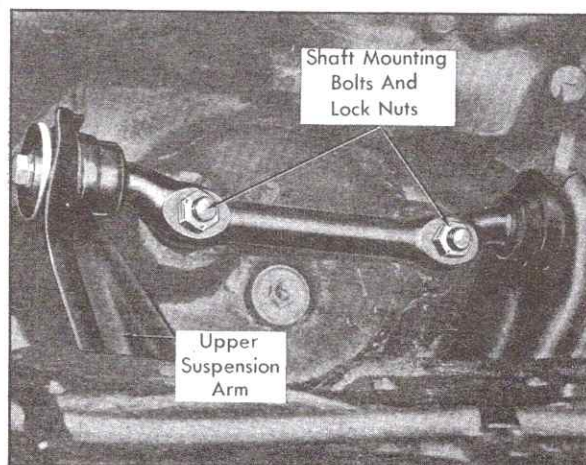

Fig. 3-17 Upper Arm and Shaft Assembly Installed
4. Remove locknuts and shaft mounting bolts at frame tower, Fig. 3-17, and remove upper suspension arm and shaft assembly.
1. Position upper arm assembly on frame tower and install mounting bolts and locknuts, Fig. 3-17. Tighten nuts to 60 foot-pounds.